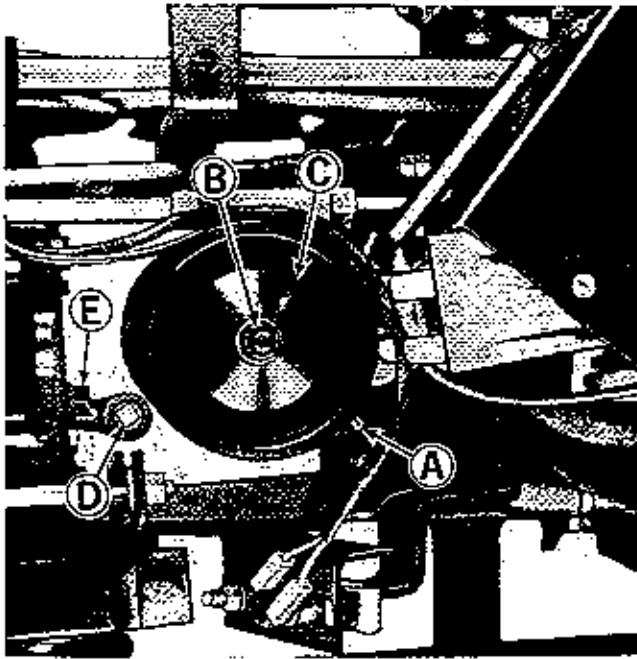

Figure 28. Hydrostatic transmission fluid reservoir and bevel gear housing located under seat deck.
See figure 28. The reservoir for the hydrostatic transmission oil must be kept filled to the bottom threads of check plug (A). To check the reservoir oil level remove plug (A). If oil is not up to the bottom threads of the hole, add Dexron automatic transmission oil. Adding transmission oil will be easier by removing nut (B) and reservoir cover (C). Clean cover (C) carefully before removing it to prevent dirt or foreign materials from contaminating the oil in the reservoir. After filling the reservoir to the level of check plug (A), replace check plug (A) cover (C), and nut (B), and tighten securely.